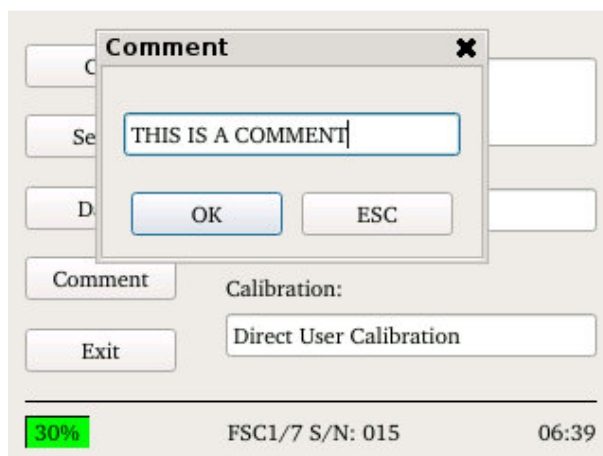
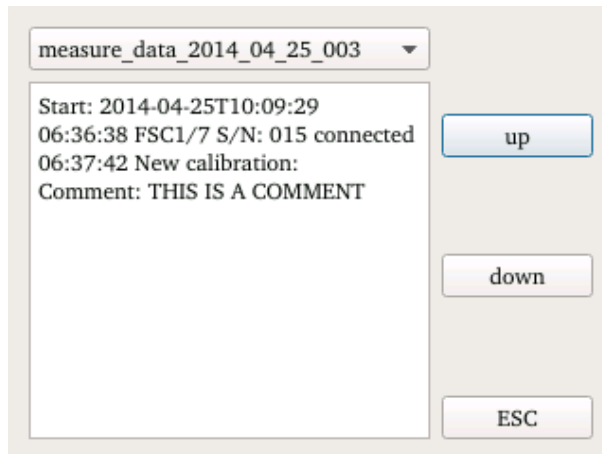

Figure 27: Menu Comment
Figure 28: Displayed Comment in the current “measure\_data” file
- Menu "Comment": Here you can insert a comment to a measurement result or the like, see Figure 27. These comments are stored in the current "measure\_data" file, see Figure 28.